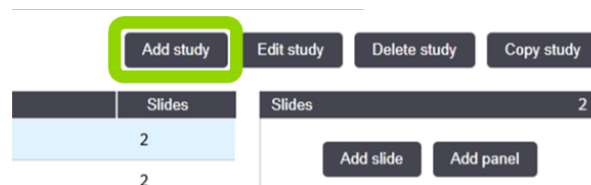

Figure 62: Add study button
2. Click the **Add study** button (see Figure 62).